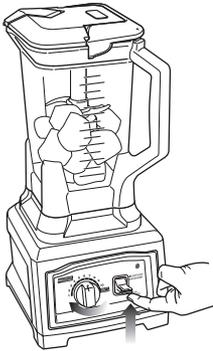

Fig. 6
- 8 Turn the Variable Speed Dial to speed 1. (Fig. 6) The power indicator light (Ⓞ) will now turn on. To start the blender, press the "Start/Stop/Pulse" toggle up to start processing. Slowly increase to desired speed.